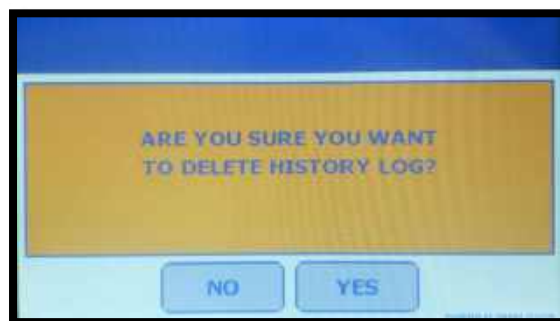

Figure V-39: Purge Confirmation Screen
9. The FP-24 5G prompts for "ARE YOU SURE YOU WANT TO DELETE HISTORY LOG?". Press [YES] to erase \(Figure V-39\).